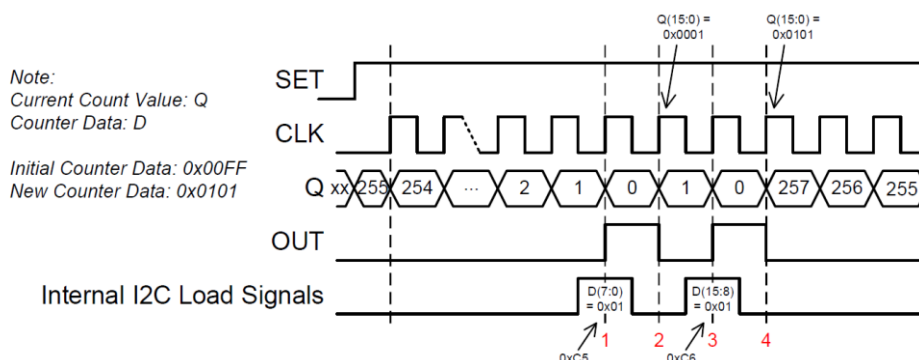

Figure 10: I2C Write of 16-Bit Counter Data Example
The timing diagram in Figure 10 sets up a case where an improper output will be seen on the counter. In this example, the initial Counter Data value (D) is set up as 0x00FF. As you can see, the Current Count Value (Q) decrements from 255 down to 0 with rising edges on CLK. At time "1"